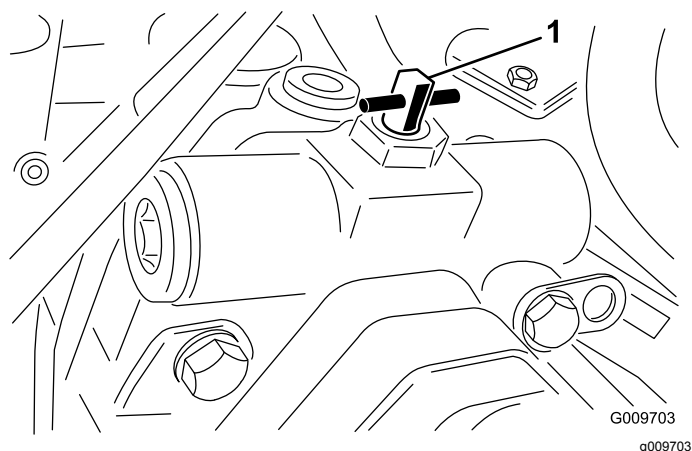

Figure 63
3. Rotate the bypass valve 90° (1/4 turn) in either direction to open it and allow fluid to bypass internally (Figure 63).
2. Rotate the bypass valve 90° (1/4 turn) in either direction to open it and allow fluid to bypass internally (Figure 63).